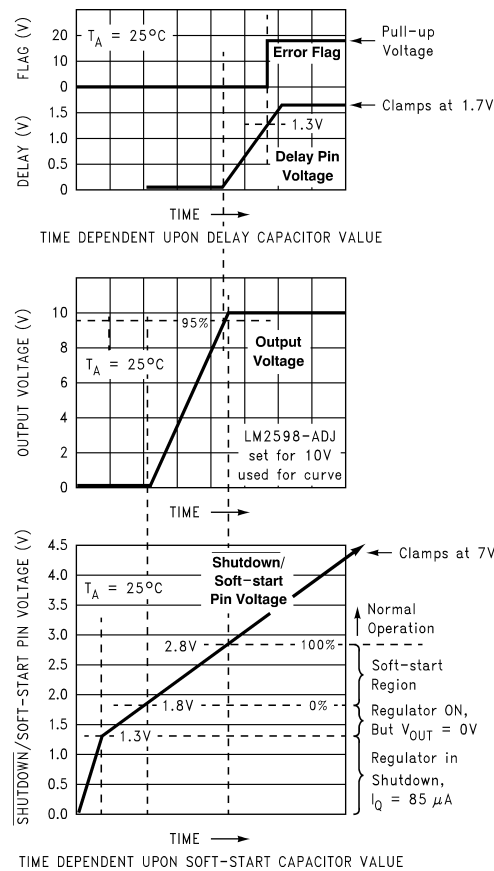
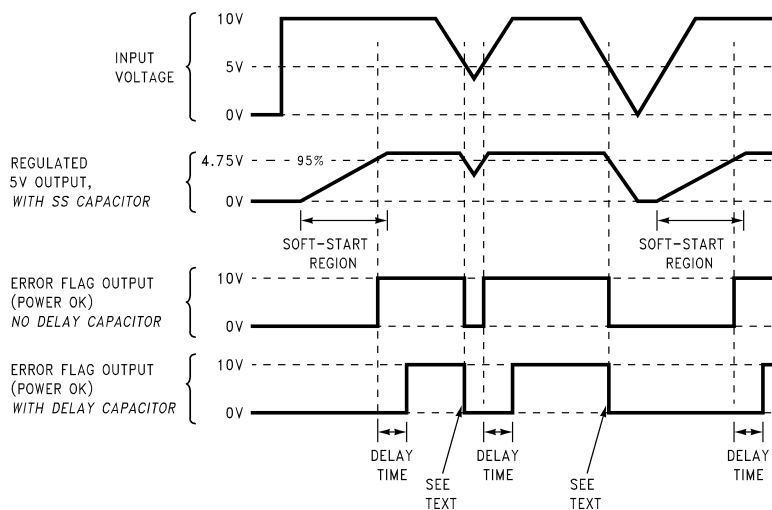

Figure 28. Soft-start, Delay, Error, Output
Figure 29. Timing Diagram for 5-V Output
A capacitor on this pin provides the regulator with a Soft-start feature (slow start-up). When the DC input voltage is first applied to the regulator, or when the Shutdown/Soft-start pin is allowed to go high, a constant current (approximately 5 μ A) begins charging this capacitor). As the capacitor voltage rises, the regulator goes through four operating regions (See the bottom curve in Figure 28).
3. Soft-start region: When the $\overline{SD/SS}$ pin voltage is between 1.8 V and 2.8 V at 25°C, the regulator is in a Soft-start condition. The switch (Pin 1) duty cycle initially starts out very low, with narrow pulses and gradually get wider as the capacitor $\overline{SD/SS}$ pin ramps up towards 2.8 V. As the duty cycle increases, the output voltage also increases at a controlled ramp up. See the center curve in Figure 28. The input supply current requirement also starts out at a low level for the narrow pulses and ramp up in a controlled manner. This is a very useful feature in some switcher topologies that require large start-up currents (such as the inverting configuration) which can load down the input power supply.
Note: The lower curve shown in Figure 28 shows the Soft-start region from 0% to 100%. This is not the duty cycle percentage, but the output voltage percentage. Also, the Soft-start voltage range has a negative temperature coefficient associated with it.
Provides delay for the error flag output. See the upper curve in Figure 28, and also refer to timing diagrams in Figure 29. A capacitor on this pin provides a time delay between the time the regulated output voltage (when it is increasing in value) reaches 95% of the nominal output voltage, and the time the error flag output goes high. A 3- μA constant current from the delay pin charges the delay capacitor resulting in a voltage ramp. When this voltage reaches a threshold of approximately 1.3 V, the open collector error flag output (or power OK) goes high. This signal can be used to indicate that the regulated output has reached the correct voltage and has stabilized.